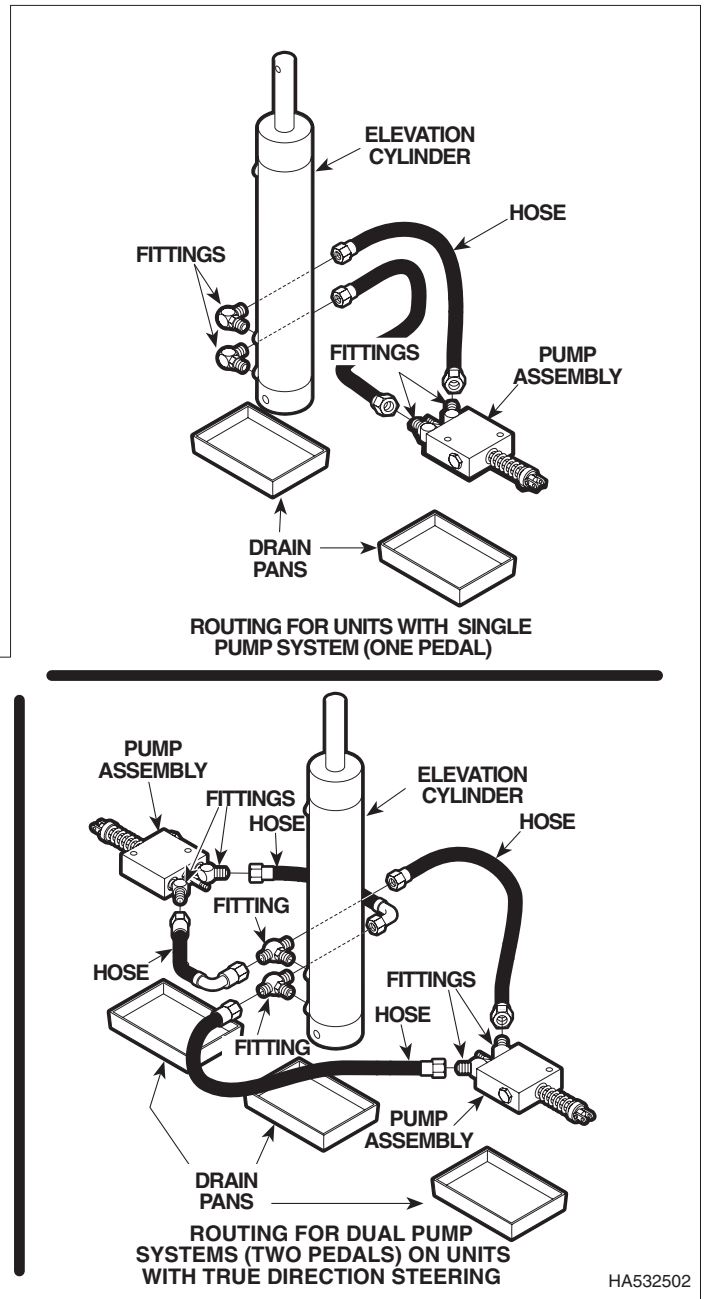

Figure 4-7. Hose Removal / Installation
- (1) Remove lower cover (Refer to para 4.2).
- (2) Depress the foot pedal as far as it will go to lower the litter top to it's lowest position.
- (3) Place drain pan(s) under the hose connections to catch oil. See Figure 4-7.